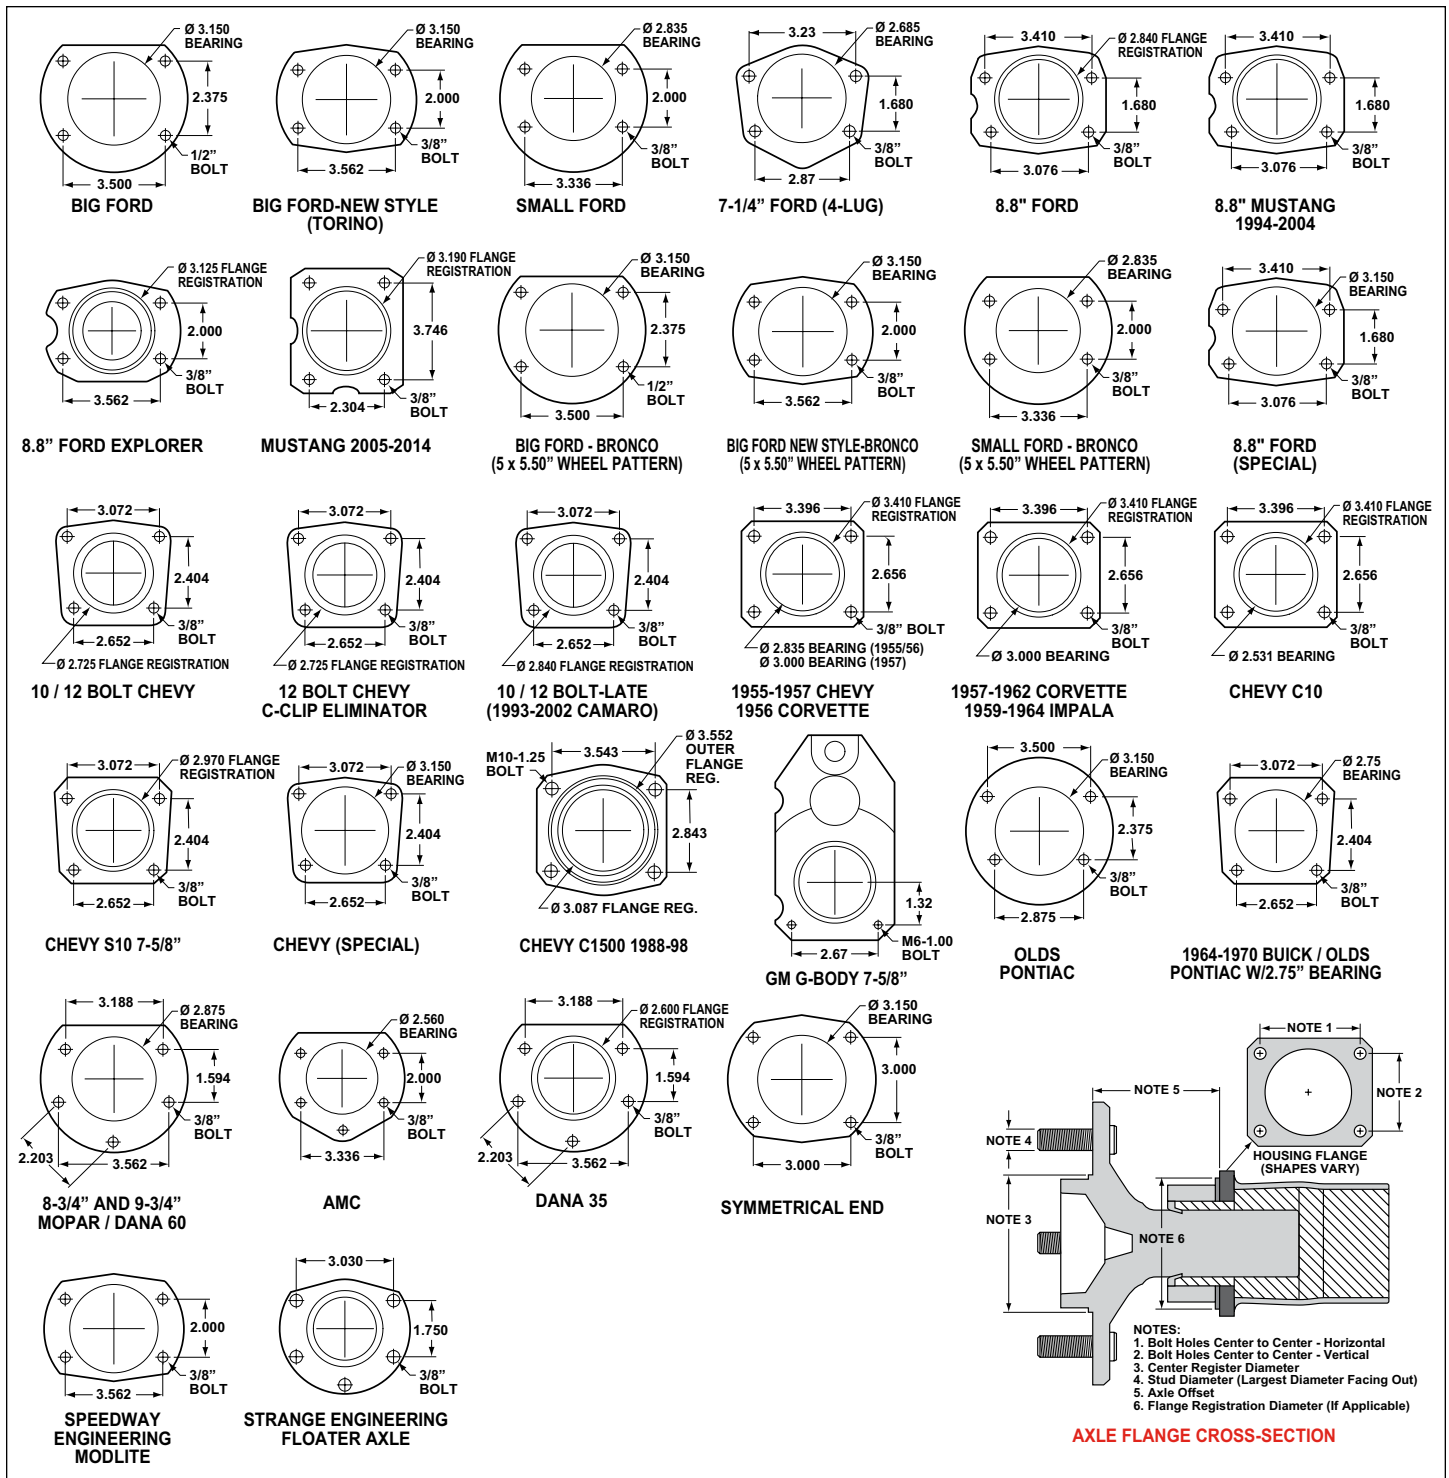

Figure 5. Rear Housing Flange Chart and Axle Flange / Offset Cross-Section
- Dimension from wheel side of axle flange to wheel side of axle housing flange (see Figure 5, Note 5, lower right hand corner). This dimension is critical to ensure proper alignment of the rotor to the caliper, and should match offset given in the kit description.